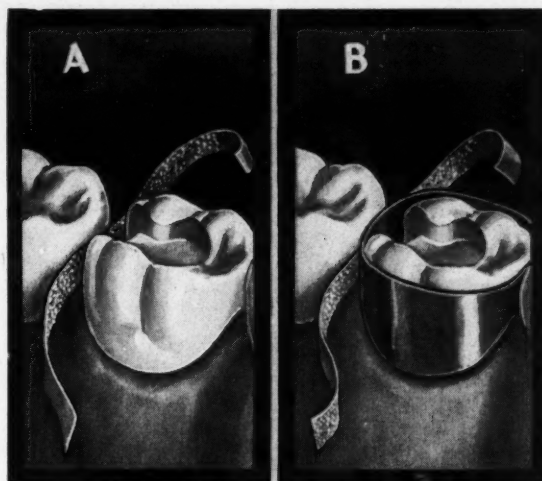

Fig. 4
Fig. 4—A sandpaper strip is cut lengthwise, and one half is inserted between the preparation and the approximating tooth (A) with the sandpaper side toward the preparation. This is done before the matrix band is placed in position (B). After the amalgam is condensed, the band is removed and the strip of sandpaper is used to produce a proper gingival margin. This method makes it unnecessary to pass the sandpaper through the contact point after the restoration is in place.